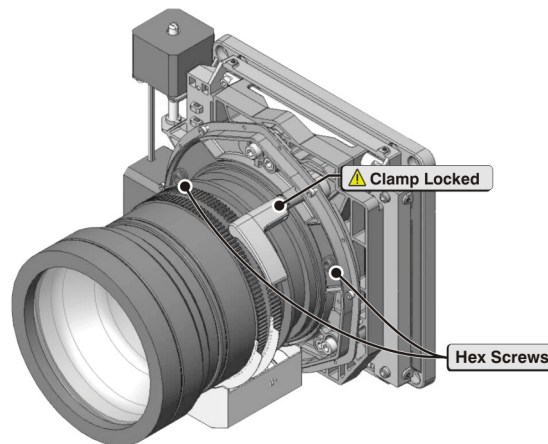

Figure 2-7 Lock Lens in Place
2. Remove the two hex screws from the lens mount (**Figure 2-7**).
4. Secure the two hex screws and position the lens clamp DOWN to lock the lens assembly in place (**Figure 2-7**).